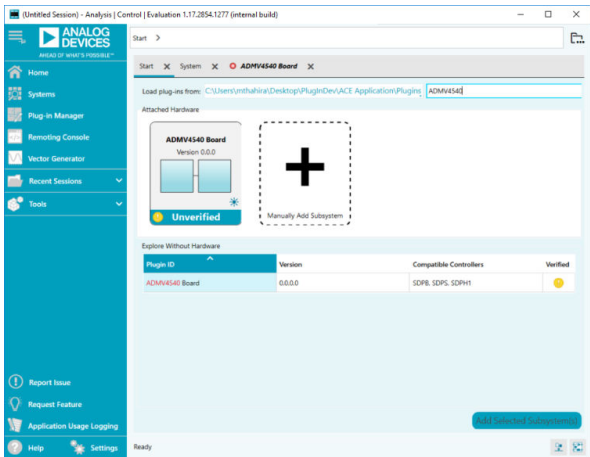

Figure 7. Attached Hardware Section when the ADMV4540 Board (ADMV4540-EVALZ Is Connected
6. Open the ACE software. The ADMV4540-EVALZ (**ADMV4540 Board**) appears in the **Attached Hardware** section (see Figure 7). Double-click on the ADMV4540-EVALZ plug-in. If the device is turned off and on, or if the USB cable is unplugged and plugged in, while the ACE software is open, the user may lose contact with the ADMV4540-EVALZ. If this happens, go to the **System** tab, click the **USB** symbol on the **ADMV4540 Board** subsystem, and then click **Acquire** to establish SPI communication with the ADMV4540-EVALZ again.